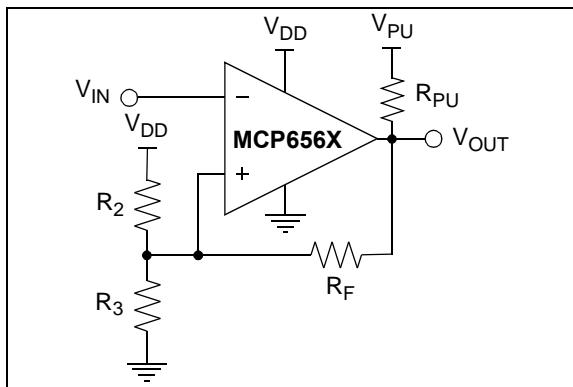
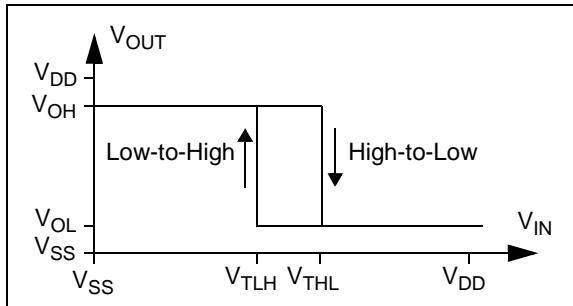
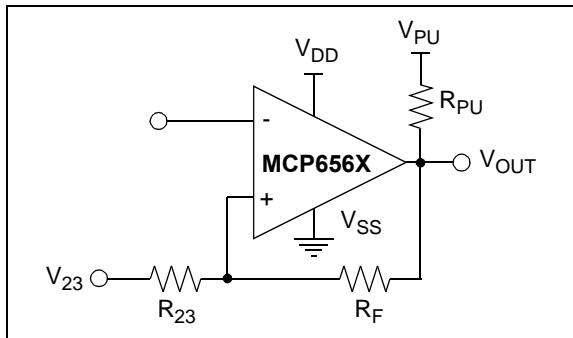

FIGURE 4-6: Inverting Circuit with Hysteresis.
FIGURE 4-7: Hysteresis Diagram for the Inverting Circuit.
FIGURE 4-8: Thevenin Equivalent Circuit.
Figure 4-6 shows an inverting circuit for single-supply using three resistors. The resulting hysteresis diagram is shown in **Figure 4-7**.
In order to determine the trip voltages (V_{THL} and V_{TLH}) for the circuit shown in **Figure 4-6**, R_2 and R_3 can be simplified to the Thevenin equivalent circuit with respect to V_{DD} , as shown in **Figure 4-8**.
1. Inverting Configuration (Figures 4-6 and 4-9):